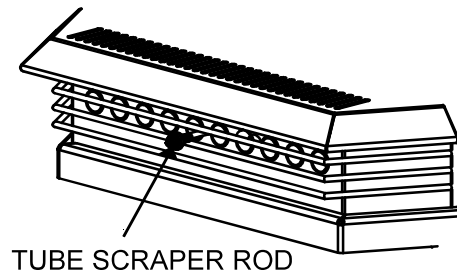

Figure 24. Tube scraper rod to clean heat exchanger tubes.
- a. Pull and push the heat exchanger tube cleaning rod which is located in the center, above the door (see Figure 24) when the stove is cold. This will remove the ash deposits on the heat exchanger tubes. The removed ash will fall on the top heat shield, located in the burn chamber.